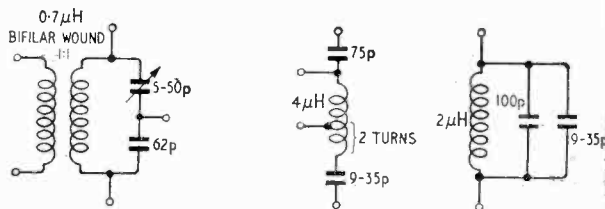

Fig. 2. Three of the many variations possible with the LC networks.
Some of the circuit configurations possible with these networks are shown in Figs. 2 and 3.
The next step is to modify the circuit to the form shown in Fig. 2. The values shown on the circuit give a phase shift of approximately 45° in each CR stage, at a frequency of 5 cycles/minute. It was decided to reduce the shunting effect of each CR stage on the resistor of the previous stage by increasing the impedance of the different stages as we go from the input towards the output. (See Summary note 2.) With the values chosen, at a frequency of 5 cycles/minute, the voltage at the output is about 0.15 of that applied across the input at AB. But again it is, of course, necessary to connect the meters according to a consistent pattern; here, also, it may be worth while, before connecting C2, C3, C4, to connect suitable resistors in their
1. The oscillator I used in Fig. 2 gave an output of about 1 volt, peak, which gave small deflections on the microammeters. I amplified the output by a simple triode, as shown in Fig. 3. The arrangement has the advantage that, when we are considering whether V1 and V4 are in phase or not, we are concerned with the swing of pointers on similar instruments. The voltages are in phase if the two meters give maximum deflection at the same instant.
Free-phase LC oscillators for direct tone-generation.—Historically, the first organs to use LC tone generators were the "free-phase" type. In these, a separate oscillator was used for each tone frequency required. Fig 2(a) gives a typical circuit. The oscillator is the Hartley type, normally used for this application because of its good frequency stability and its harmonic-rich sawtooth output. The inductor, *L*, is a ferrite pot-core with an adjustable slug permitting some $\pm 4\%$ variation of inductance. One standard pot-core assembly with a range of coil inserts can be used to cover the whole organ gamut, say from 64c/s to 4,080c/s. The playing key switch in the d.c. supply is the hallmark of the "free-phase" tone-generator oscillator. An uncommon refinement is that the d.c. supply can be set to 3V for "soft" or 9V for "loud." This illustrates the good frequency stability of the oscillator under changing supply voltage. The 100k Ω resistor in the output line isolates the oscillator from others connected to the same output busbar.
Fig. 2. Tone-generator LC oscillators: typical transistorised circuits used commercially for direct generation of tone signals ("free-phase") or for providing master synchronising frequencies ("divider"): (a) free-phase, emitter-coupled, Hartley ($L, C = 3H, 2\mu F$ at 64 c/s to 30 mH, $0.05\mu F$ at 4,080 c/s) (Gulbransen); (b) master, collector-coupled, modified Hartley ($L, C_T, C_F = 0.9 H, 0.1\mu F, 0.047\mu F$ at 740 c/s to 0.4 H, $0.066\mu F, 0.033\mu F$ at 1397 c/s) (Heathkit); (c) master, emitter-coupled, Hartley ($L, C = 350 mH, 0.016\mu F$ at 2 kc/s to 350 mH, $0.004\mu F$ at 4 kc/s) (Kawai).
Fig. 2(b) gives a representative example of a collector-base feedback master oscillator. This one is designed to provide chromatic frequencies from F ≈ 740 c/s to F 1,397 c/s by selecting suitable values of the split tuning capacitors, C_T , the feedback capacitor, C_F , and the inductance, L . For any selected frequency, the final exact tuning is effected by adjusting the slug inside the ferrite pot core. The rail voltage of 15 V is typical of the range
Fig. 2(c) gives a typical example of the emitter-coupled master oscillator, which tends to be more common than the collector-coupled one. The example shown is designed to work in the frequency range 2-4 kc/s. For traditional C-to-C organ manuals this is the most common range for master oscillators to be set in. In economy organs, however, the oscillators may be found set from 1-2 kc/s, and in some specialized organs with wider tonal range 4-8 kc/s is used.